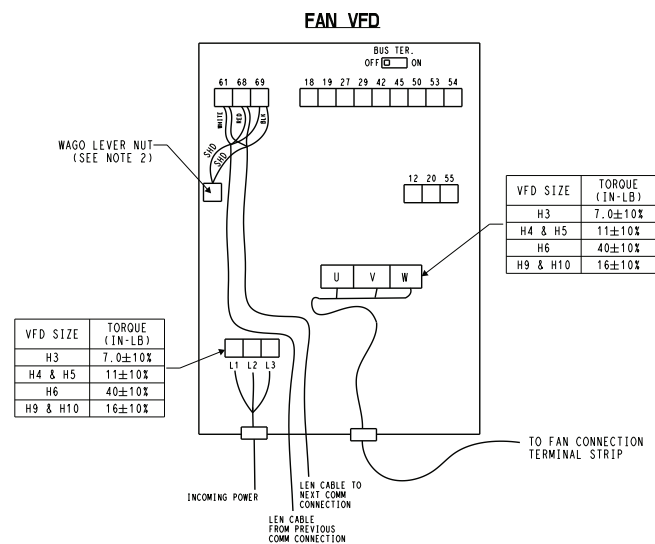

Fig. 75 — Fan Drive Wiring
5. Connect power and LEN control wiring to the drive. For wiring details for fan drives, see Fig 75. Use the same knockout openings on the new drive as on the drive being replaced. Torque connections are shown in Table 67.
- a. Using the display interface on the VFD drive, select Main Menu with the Menu button. Navigate to menu item 8-30 and confirm that the LEN option is selected. Using the up/down arrows and OK button, follow the following path: **8-** (Command Options) → 8-3* (FC Port Settings) → 8-30 (Protocol)**. If LEN is not selected, press the OK button and use the arrows to scroll through the options and select it. If no LEN option appears, LEN communication is not enabled on the drive. Follow the process described in the next section, Enable LEN Communication, and then complete the remainder of this addressing procedure.
- b. Navigate to menu item 8-31 on the VFD display and enter the address for the drive being configured, using the following path: **8-** (Command Options) → 8-3* (FC Port Settings) → 8-31 (Address)**. Press the OK button and use the up/down arrows to select the drive address. See Table 62 to determine the correct address. For fan drives, see Fig. 75 for typical arrangement.